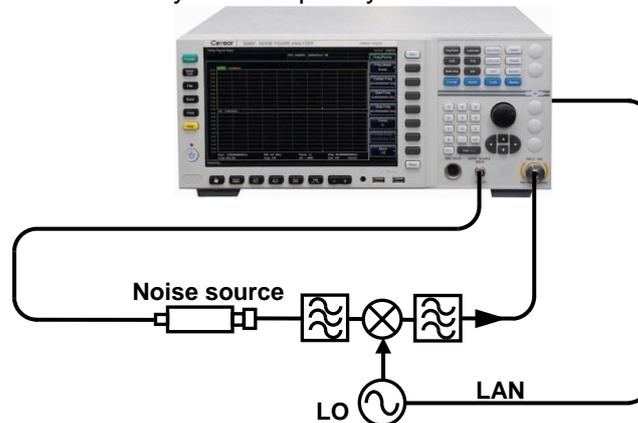

Fig.4.5 Calibration Connection Diagram of System Downconverter Mode
- Step 2.** The noise figure analyzer controls external LO through the LAN interface. Connect the noise figure analyzer to the corresponding interface of the LO with a network cable. In the fixed IF mode setting of variable LO , control the output frequency and power of the LO with the LAN of the noise figure analyzer, so as to enable automatic sweep frequency measurement. The calibration connection of the system frequency conversion mode is shown in Fig. 4.5.